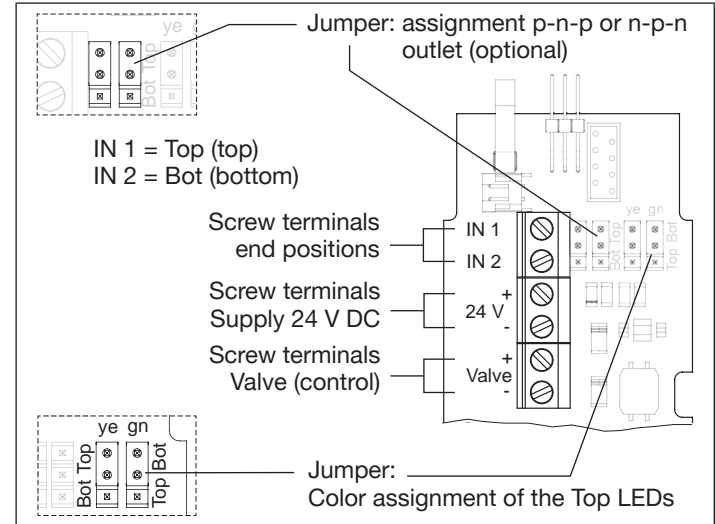

Fig. 14: Connection with cable gland
4) Color setting ex works. Can be set via jumper (see “Fig. 14: Connection with cable gland”).